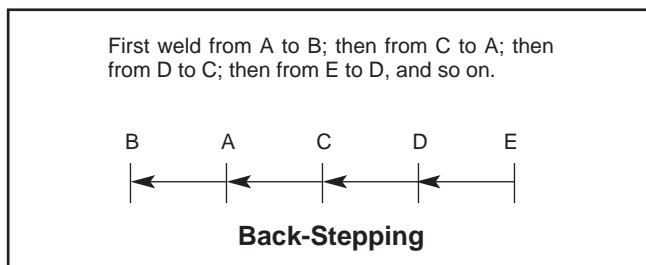

FIGURE B.19
3. When welding sheet metal 16 gauge (1.5 mm) and lighter, heat buildup may cause part warpage and burn through. One way to eliminate these problems is to use the back-stepping method illustrated in Figure B.19.